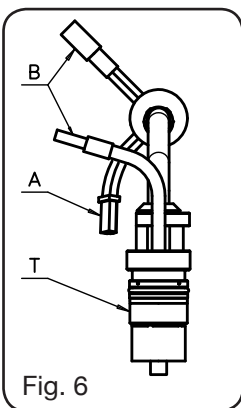

Fig. 6
- Screw in fittings **D** and **E** according to the arrow direction - Fig. 6.
- Replace the welding torch cable, manually screw fittings **D** and **E** according to the arrow direction - Fig.6.